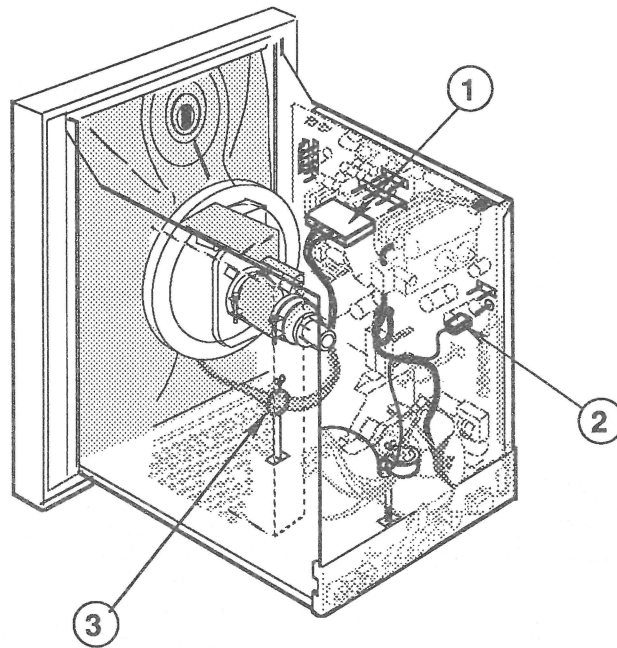

FIGURE 51
- 4-wire, CRT connector **M** (Figure 51, #1)
- Single-wire connector **GB** (Figure 51, #2)
Remove the CRT cable from the cable clamp (Figure 51, #3) at the bottom of the chassis, and unwrap the **GB** cable from the anode cable.